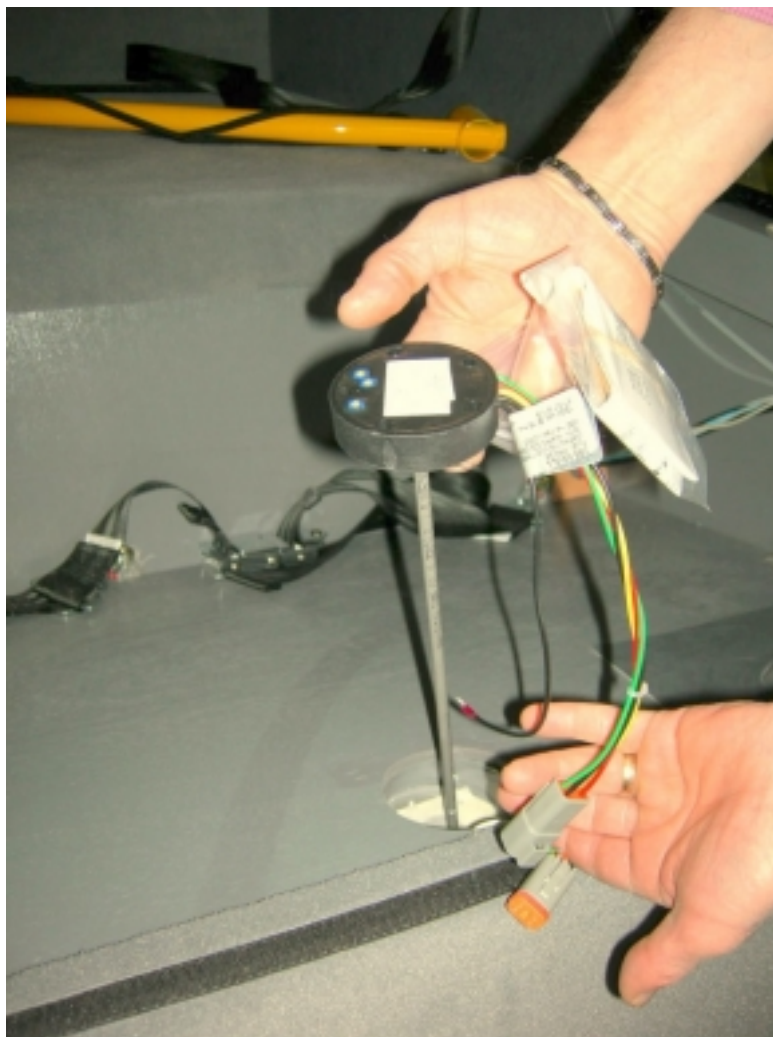

Fig. 28-4a Low fuel sensor
- (2) Replace the O-Ring in the bottom lid (4), carefully seating it in the groove. Stretching the ring a little helps to retain it in the groove. See Fig. 28-4a.
- (3) Insert the new fuel filter cartridge into the fuel filter. Ensure that the open end of the lid faces up into the housing.
- (4) Carefully screw the bottom lid (4) onto the fuel filter housing (1), ensuring the spring seats correctly both in the lid and the fuel filter cartridge. Tighten the lid using a 27 mm oil filter socket wrench (short socket).